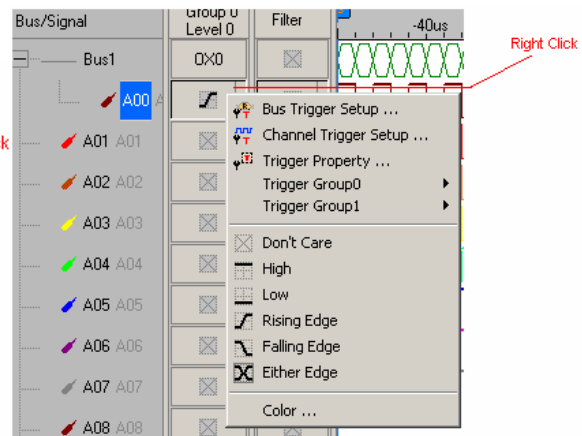

Fig 4-26 – Right Click
2. Right Click  to set the signal trigger edge as shown in Fig 4-26.